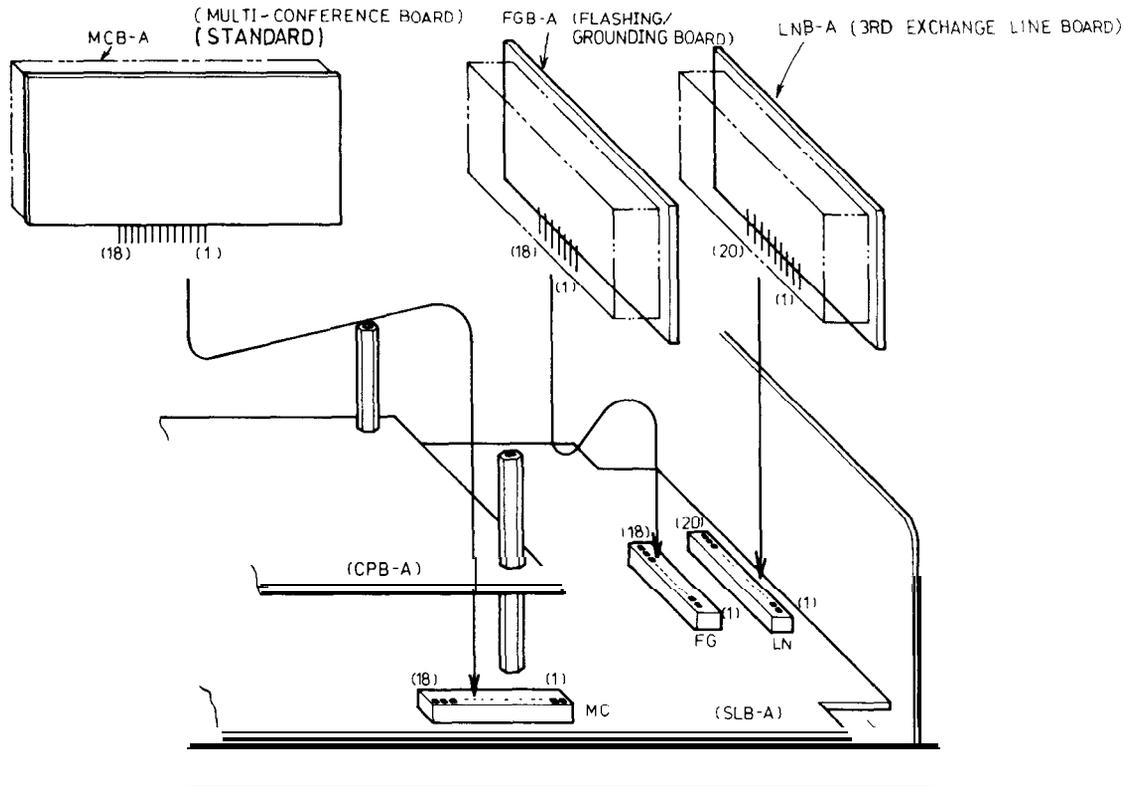

FIG. 32 - BOARD INSTALLATION
Note that the components on the LNB-A board face the centre of the cabinet. (For location of the LN connector see Figures 32 and 40).
- b) The MCB-A Multi-Conferencing Board is plugged into the MC connector located on the SLB-A board (see Figures 32 and 40). The programming link between terminals 1 and 2 on the AR connector must be removed. (Refer to Figure 41 and Table 2.51).
The board is plugged into connector FG (see Figures 32 and 40), after programming links 13-l 4, 15-16 and 17-l 8 are removed.